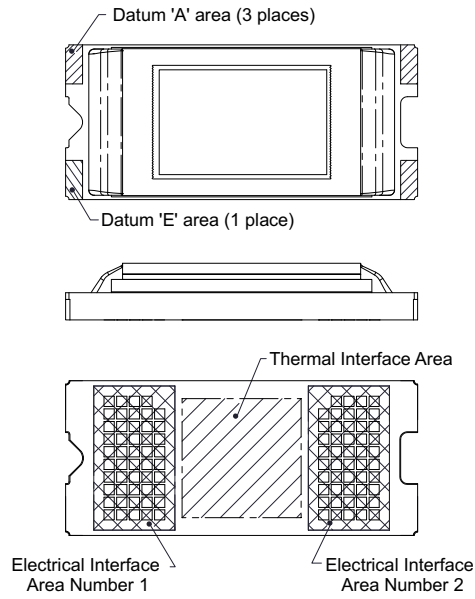

Figure 7-4. System Interface Loads for FQD
- (1) See Section 13 for diagrams.
- (2) See Figure 7-4 for diagrams.
- (3) See Mounting Concepts DLP4500FQE.
- (4) See Mounting Concepts DLP4500FQD.